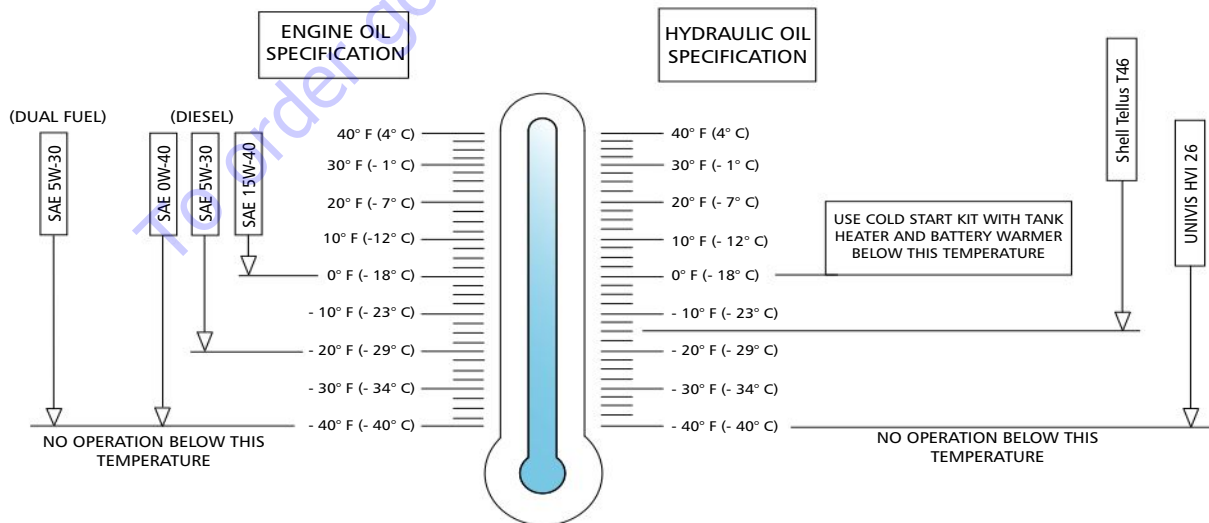

Figure 3-10. Cold Weather Operation Chart
- Refer to the cold weather operation chart (Figure 3-10) to assist in operating the aerial platform in cold weather conditions.